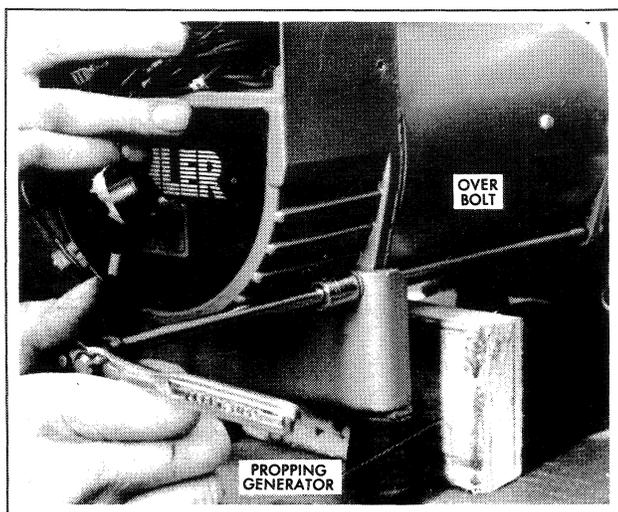

Figure 2-15. Propping Generator/Removing Overbolts
9. Support set placing suitable prop under the generator adapter, between the stator frame and engine, Figure 2-15.
10. Remove four over-bolts which secure the end bracket to the stator and generator adapter. Figure 2-15.